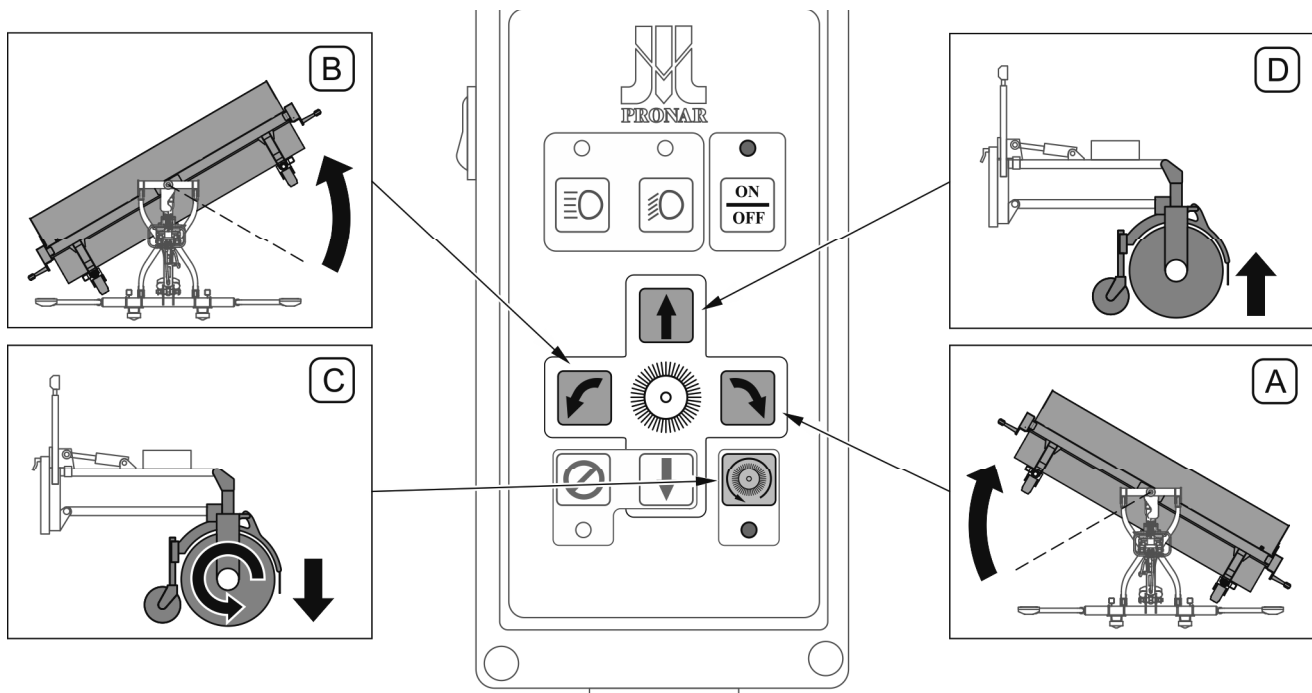

FIG. 4.13 Changing the sweeper's working position (ZM-S25 sweeper with hydraulic brush turning)
Working position of ZM-S25 sweeper with hydraulic brush turning can be smoothly adjusted within the range of $+30^\circ / -30^\circ$. In order to change the sweeper's working position, the control panel should be ON. The ON / OFF (yellow) indicator light should be on - do not flash. Push-buttons (A and B) on the control panel are used for changing the sweeper's working position (FIG. 4.13). Push-button (A) is used for shifting the brush to the right (looking in the direction of vehicle travel), whereas push-button (B) is used for shifting the brush to the left. In order to set the brush in an intermediate position, release the corresponding push-button in a proper moment. Changing the brush setting (A and B) is possible during sweeping but may cause a temporary drop in brush rotation.
The brush (FIG. 4.13) is raised when push-button (D) is pressed. When the brush is running, lifting (D) works only when the button is "held". The brush (C) is lowered when it is turned on.